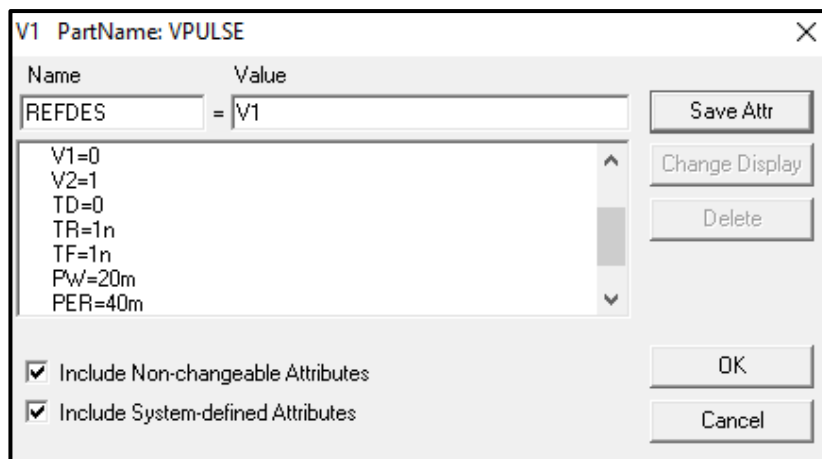

Figure.39
- Double click on the source to insert its parameters, the window in figure.39 will show up.